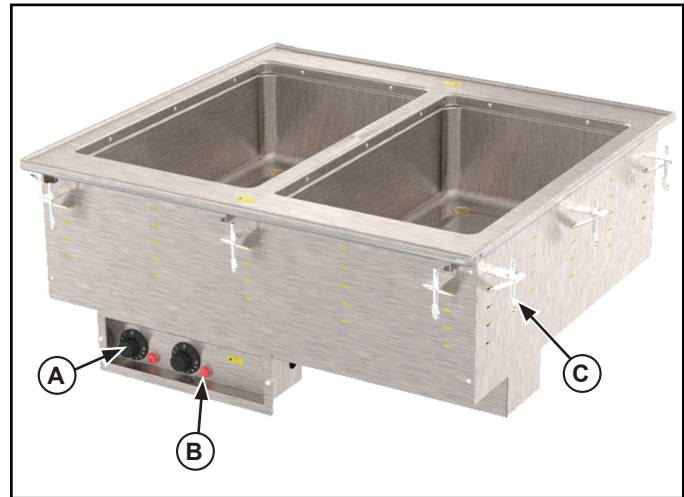

Figure 1. Features and Controls.
5. Tighten the thumbscrews (C) slowly and in an alternating pattern to evenly compress the gasket. See Figure 1. The gasket should create a even gap between the well and the mounting surface.
1. Check the drain valve(s) (D) to verify it is in the CLOSED position to prevent water from draining out. See Figure 1. The valve is in the CLOSED position when the handle of the valve forms a "T" with the body of the valve.
4. Preheat the water in the wells by covering wells with empty food containers or covers. Turn the temperature control (A) to the maximum heat setting. Preheat for 60 minutes.